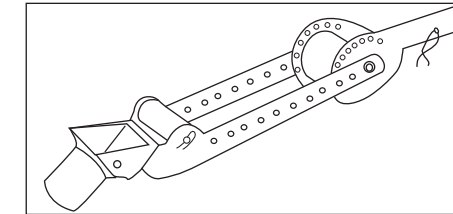

Fig 13
2. To convert to overhead pulls, remove front hitch pin on front extension and swing front extension straight out and re-pin (Fig 13).